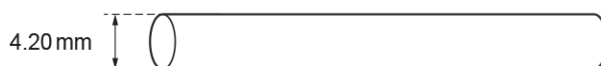

Fig. 16.1 (not to scale)
54. A footbridge is supported by a number of metal cables of the same length. Each cable has uniform cross-section and diameter 4.20 mm as shown in Fig. 16.1.